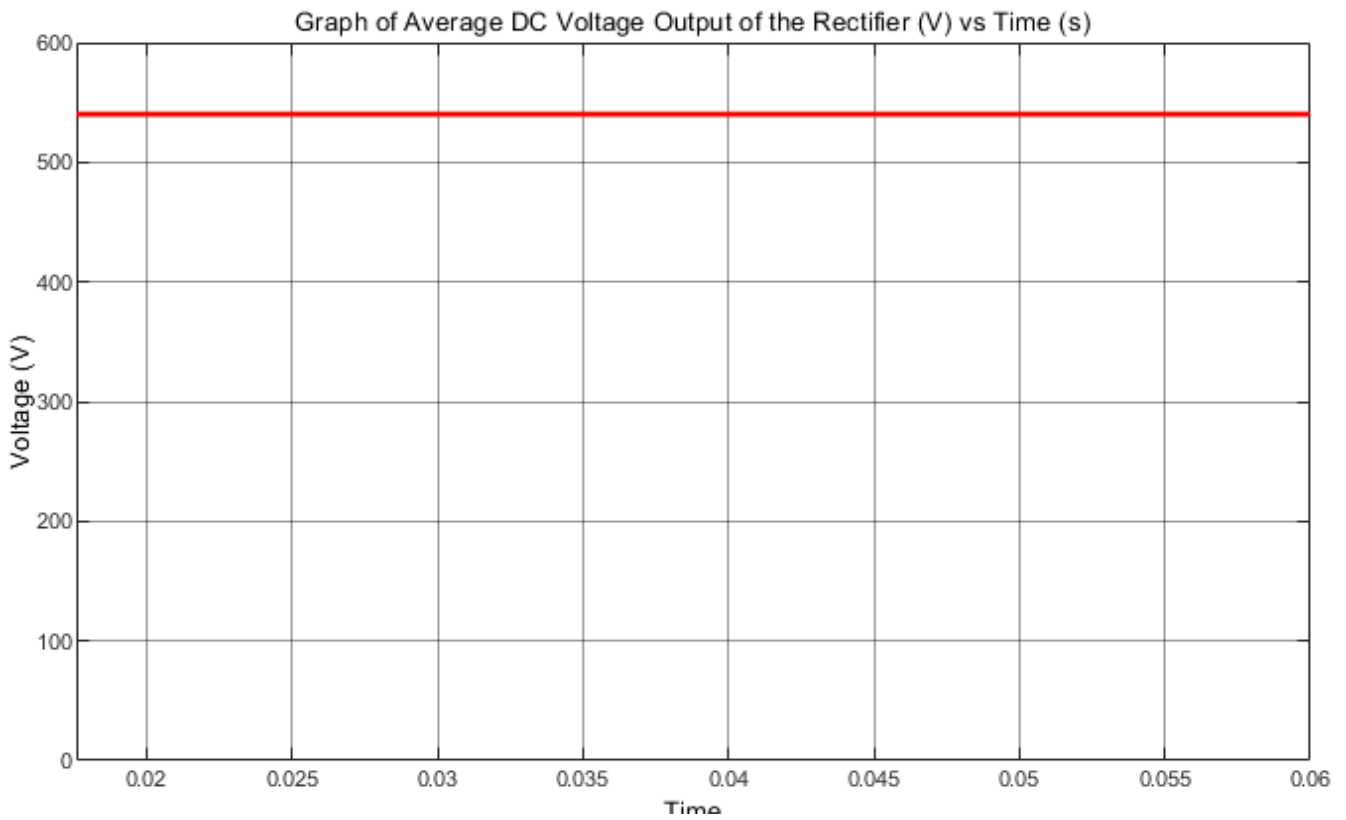

Figure 4: Graph of Average Rectified Output Voltage (V) vs Time (s)
**Comment:** Analytical calculation of average voltage output is almost same with simulation result. We found average DC voltage as 540.19 V. As we can see from figure 4, the average DC voltage in simulation result is around 540V.